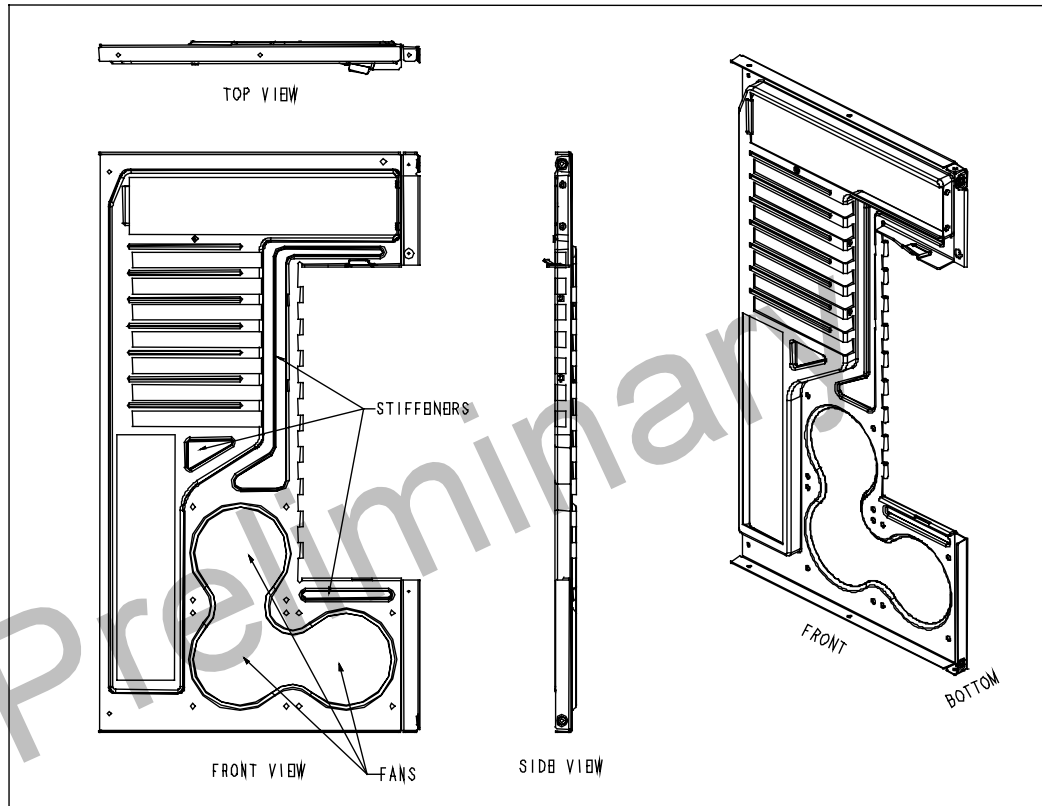

Figure 6: Chassis Rear
The chassis rear is a complex part providing many functions. It has the required openings for motherboard I/O, expansion cards, and Flex Slot; it provides the power supply hinge and support; and it mounts three (3) system fans. It also provides the rear screw holes to lock down the adapter plate. Due to the complexity of this part, it has been designed for drawn steel. Figure 6 shows an isometric view and three plan views of the chassis rear.